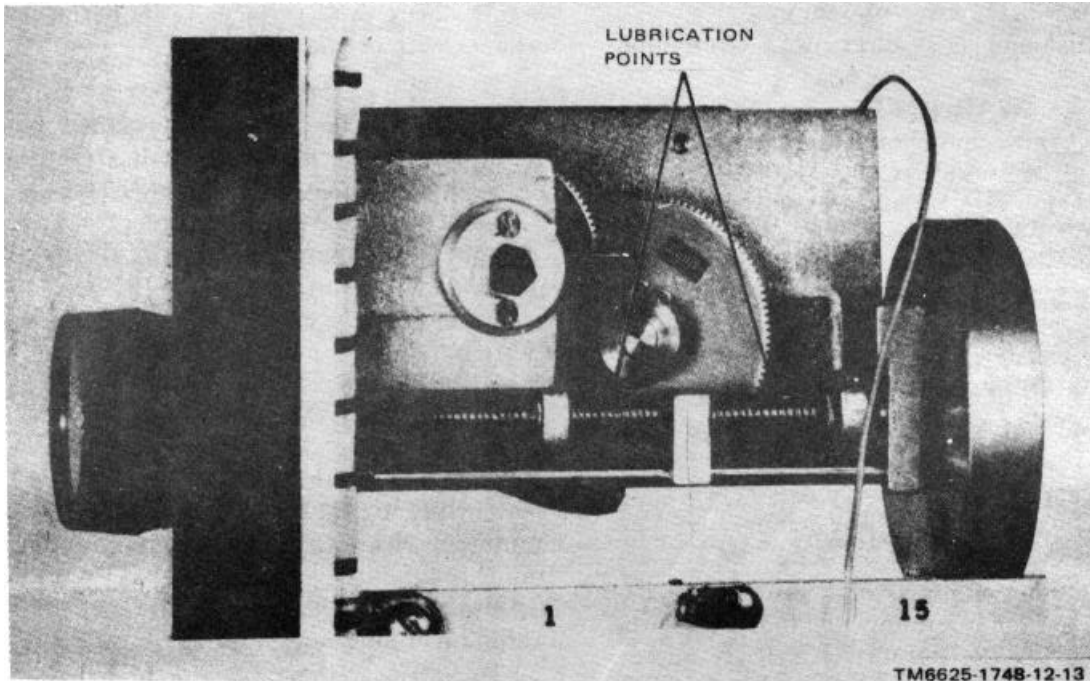

Figure 4-1. Tuning Drive Assembly TN-527/U tuning unit, showing lubrication.
- a. No lubrication of the external moving parts of Test Set, Radio AN/USM-306 (V) 1 is required. The caster wheels, hinges, etc., are all designed for dry operation.
- b. The only parts of the test set that require lubrication are the worm shafts located in the FINE TUNING and COARSE TUNING drive assemblies in the tuning unit (fig. 4-1).
- e. Remove the bottom cover plate from the tuning unit. Stand the tuning unit on its left side, as viewed from the front. Operate the COURSE TUNING and FINE TUNING controls throughout their entire ranges between fully clockwise and fully counterclockwise. Check for any tendency to bind or drag throughout the range of the controls. Visually inspect the worm shafts (fig. 4-1) for the presence of a thin film of lubricant.
- f. To lubricate, first place a folded rag directly below the worm shaft to be oiled to catch and absorb any spillage. Use a small diameter piece of wire to dip into the oil and apply two or three drops along the top of the worm shaft (fig. 4-1). Operate the tuning drive several times throughout its range to distribute the oil evenly along the shaft. Use a clean rag or wad of cotton to remove any excess oil from the under side of the shaft. Carefully wipe away any excess oil that may have accumulated on the O-rings at the ends of the shaft.